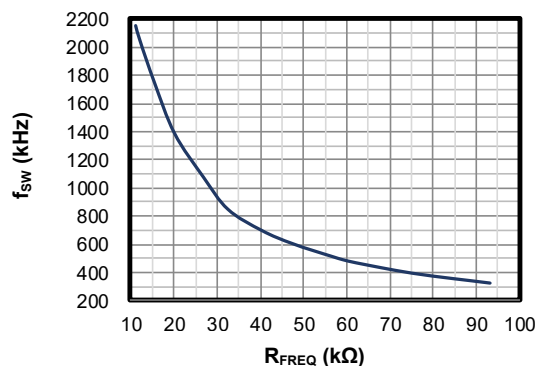

Figure 1: f_{SW} vs. R_{FREQ}
7. The MPQ4316's switching frequency (f_{SW}) can be configured by R3, the FREQ pin's resistor (R_{FREQ}). R3 can be estimated based on the relationship between f_{SW} and R_{FREQ} (see Figure 1).